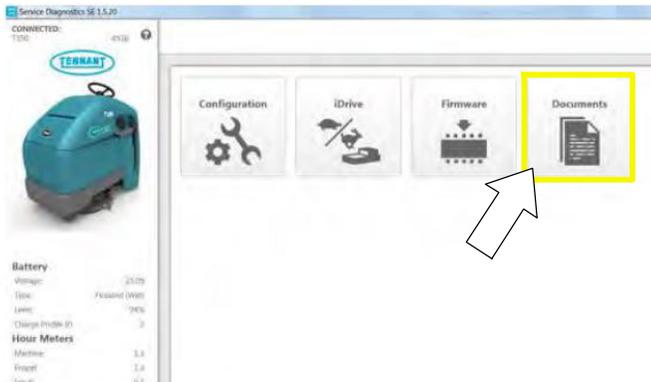

Fig. 24
- Once connected, the home screen will appear (Figure 24). If firmware updates are required, the “Firmware” button will be highlighted in yellow as shown. Press the button to update the machine’s firmware.